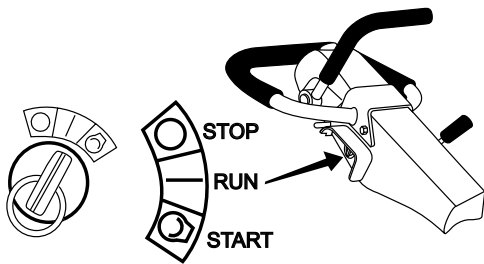

Figure 15. Starter Switch (Option)
3. Insert the ignition key into the ignition switch and turn it to the **RUN** position (Figure 15). The buzzer should sound at this time.